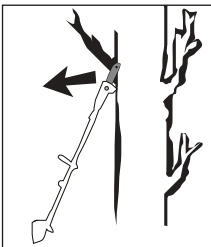

Fig. 2
- Kickbacks can occur if the tip of the blade **16** touches an object or if the wood bends and the saw chain **17** gets caught in the cut (see Fig. 2).